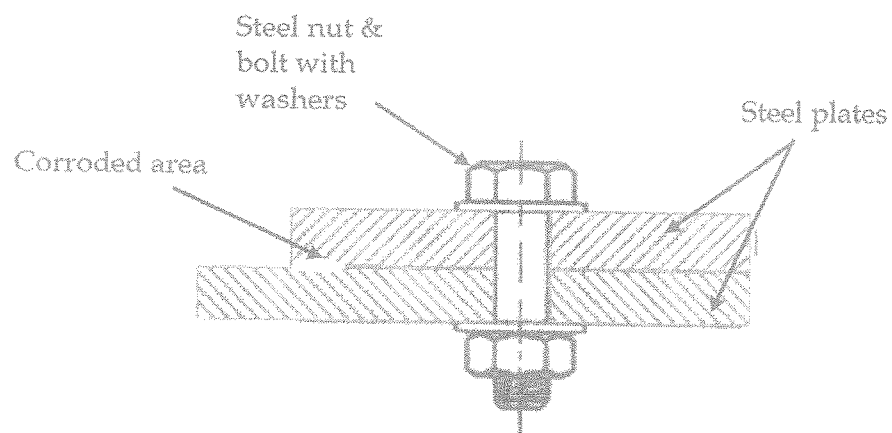

Figure Q1
i) Corrosion in between two bolted steel plates fixed with steel nut and bolt with washers (same composition) as shown in Figure Q1.